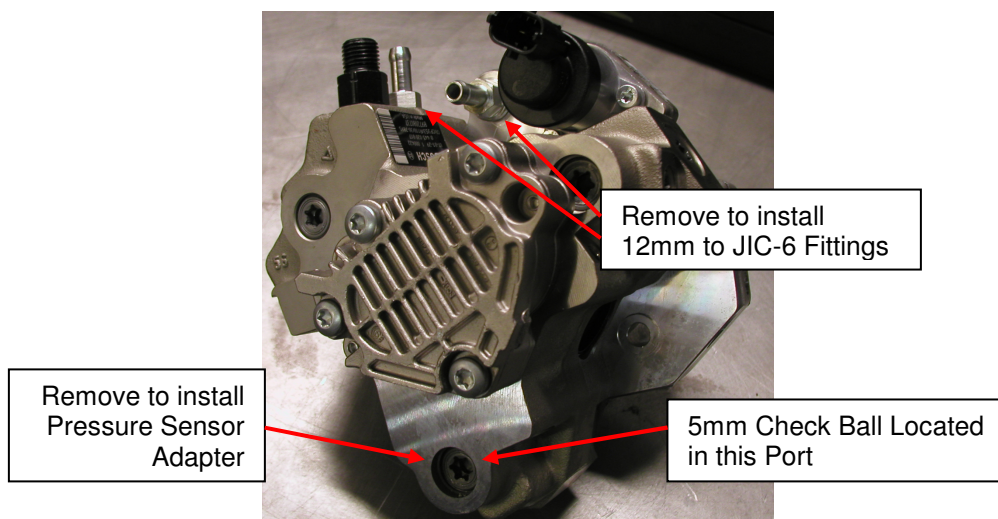

Figure 2 - Fitting Locations
3. Please refer to **Figure 2** for fuel port locations. Wrap 2 to 3 layers of Teflon tape around the male threads of the pressure sensor adapter prior to installation.